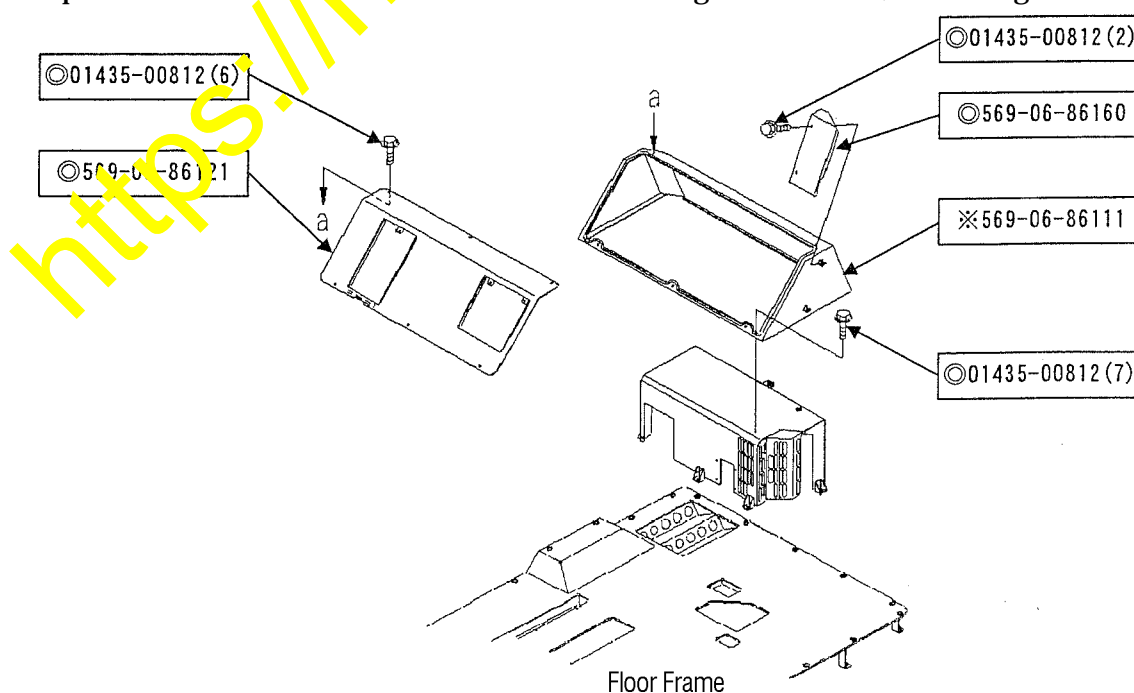

Fig. 2: Removal drawing
Remove the parts marked ① and ※ (Refer to Fig. 2.)
Re-install the cover, bracket, etc. which have been removed for the modification work back to the vehicle body in the reversed procedure to the removal procedure of the above Fig. 2.